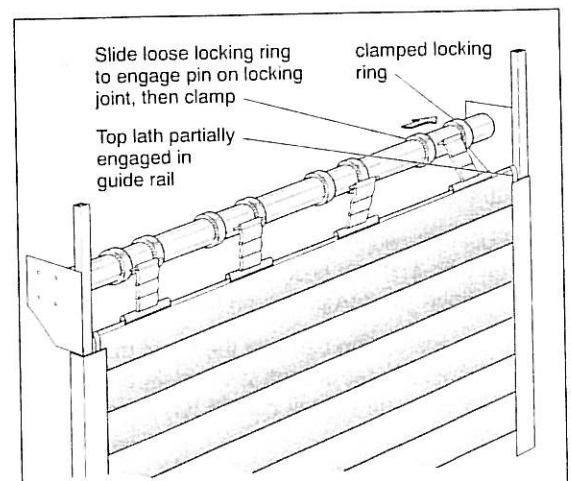

Fig 24
- 7.3 There are a pair of locking rings positioned on the shaft for each locking joint, the number of locking rings will vary according to curtain width. Clamp the outermost rings to the shaft approx. 150mm in from each end and equally space the other pairs as shown in fig. 24.
Slide the loose locking ring to engage the other end of the fastening pin and secure the loose locking ring to the shaft using the clamping screw. Repeat this for each locking joint. (see Fig 24).